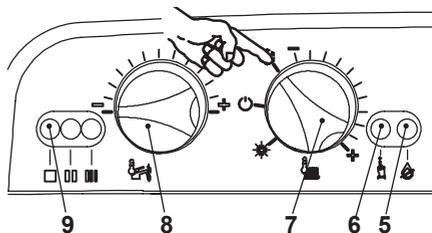

Fig. 8.12
- To leave the gas setting mode and normally run the boiler turn it ON by the function selector 7 (Fig. 8.12) on the desired operation and checking that the burner lights up uniformly. In any case, the boiler automatically resets to its normal operation after 10 minutes.